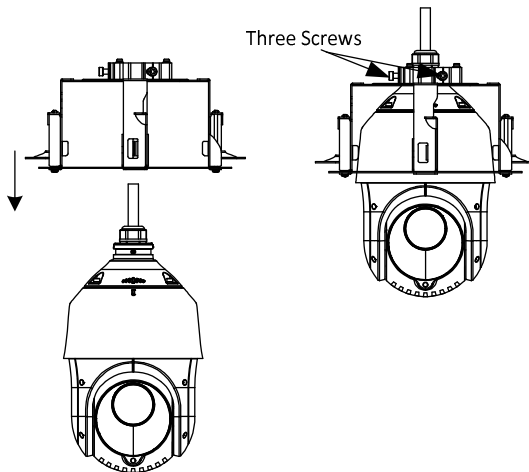

Figure 2-7 Install the Bracket
- 1) Place the in-ceiling bracket on the speed dome according to the direction of the arrow shown in Figure 2-7.